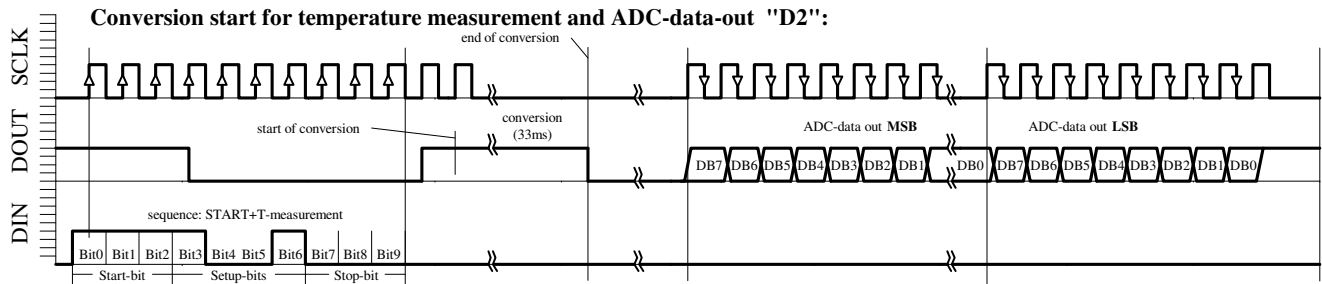

Fig. 6b: D2 ACQUISITION sequence
- Conversion start for temperature measurement and ADC-data-out "D2" (Figure 6b)